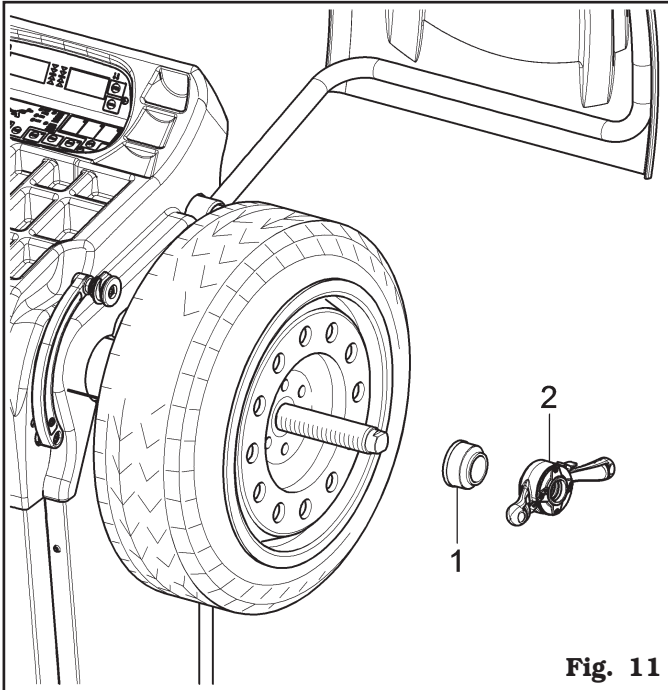

Fig. 11
4. Fit the protection cap (**Fig. 11 ref. 1**) in the ring nut (**Fig. 11 ref. 2**) and fasten everything against the wheel.